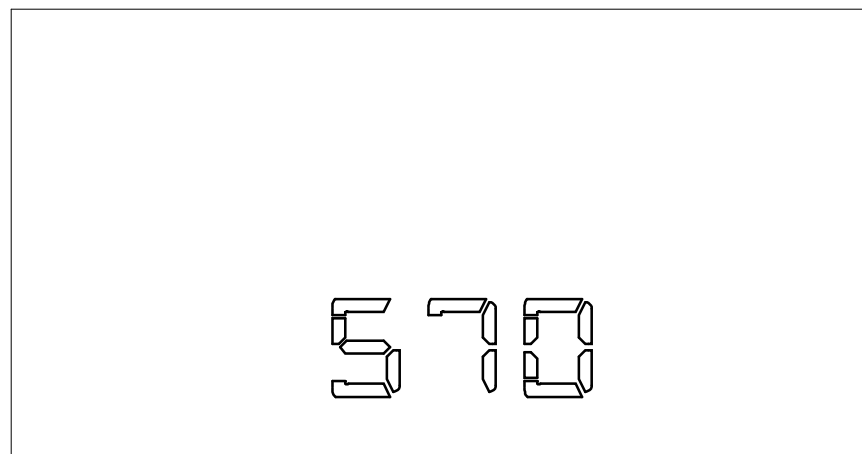

Figure 3.
- The system checks the detector's polarization voltage (Figure 3) only if there is no probe connected.